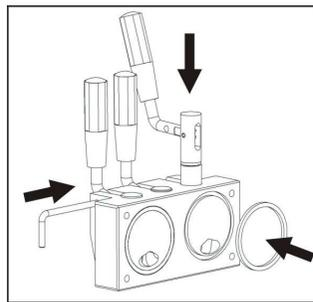

Fig 4
- c. Put the throat block in cleanser essence water, push and pull the handles 2 to 3 times. Pull out the horizontal bar and plugs. Clean the throat block and plugs. Then put the throat block and plugs into the disinfector for 3-5 minutes and clean them with clean water. Lubricate the circle around the plug gasket with edible oil. Install the throat block and plugs as before. (See Fig 4, 5)